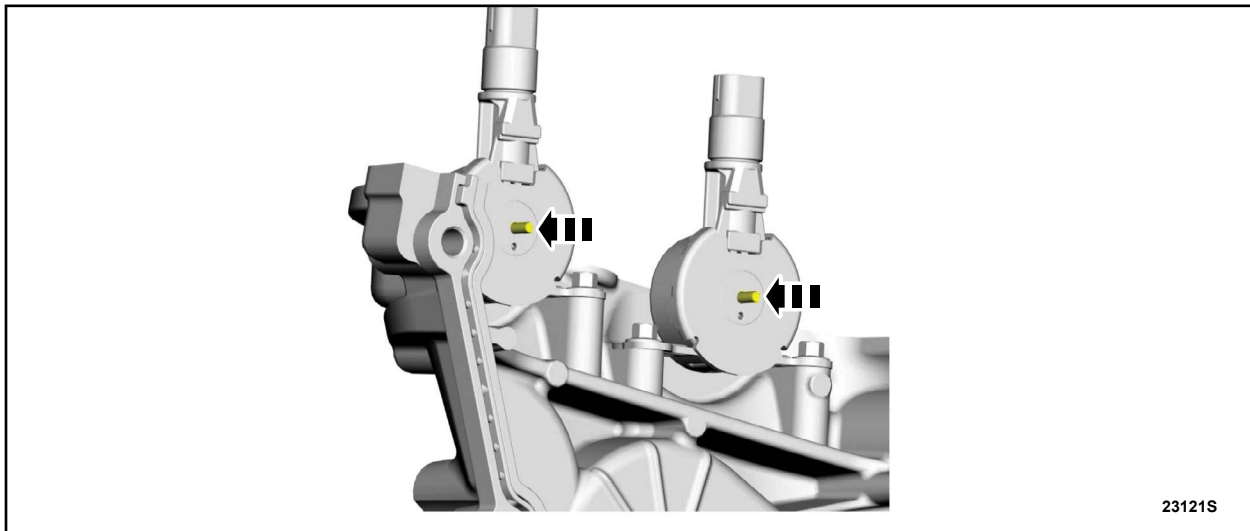

FIGURE 16
30. Fully depress the VCT variable force solenoid pins. See Figure 16.